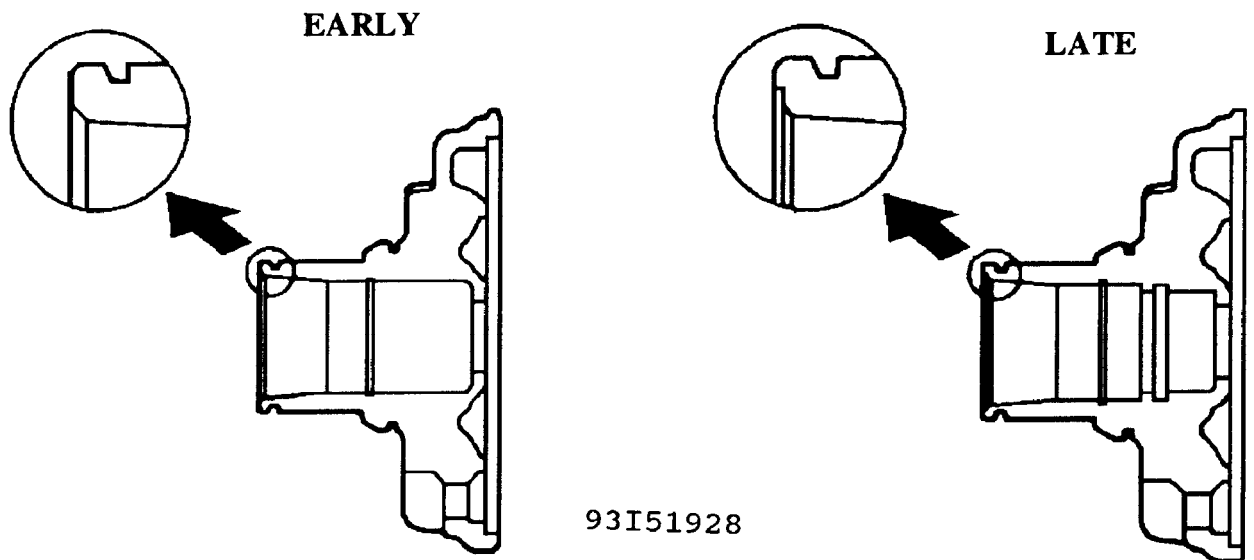

Fig. 4: Modified Cylinder Front Head
2. Cylinder front head (Fig. 4 shows early and late style heads).